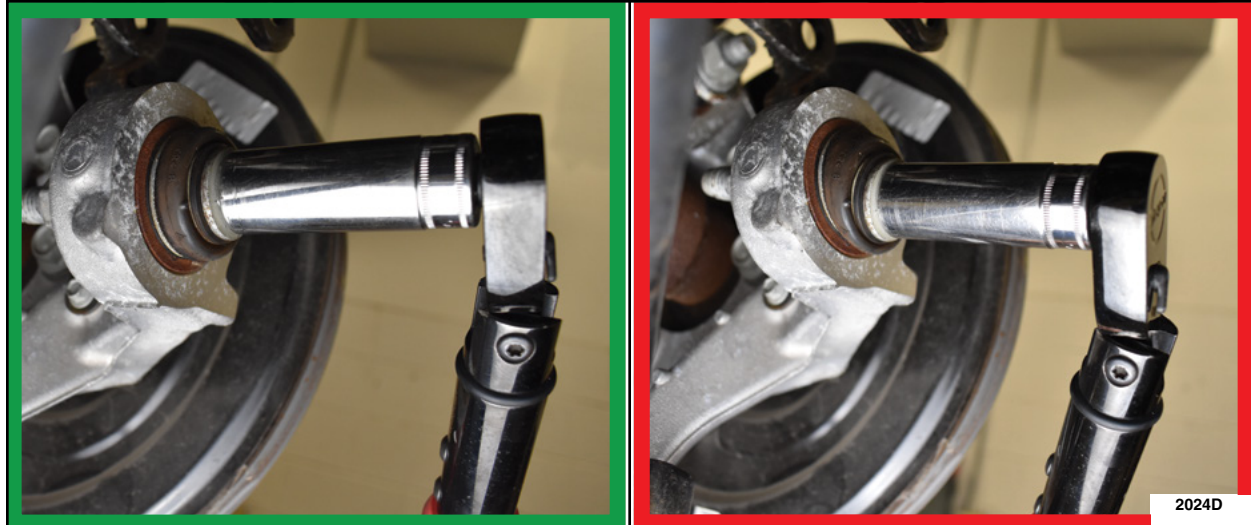

FIGURE 5
- Using a digital or dial type torque wrench, rotate the toe link to wheel knuckle bolt while keeping the ball joint straight. Do not allow the ball joint to twist as shown in the red picture below. Note the reading off of the torque wrench when the ball joint begins to rotate. See Figure 5.